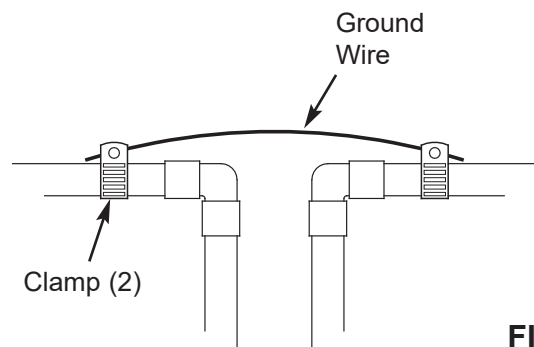

FIG. 9
- Install a #4 copper wire across the removed section of main water pipe, securely clamping at both ends (See Figure 9). Parts not included.